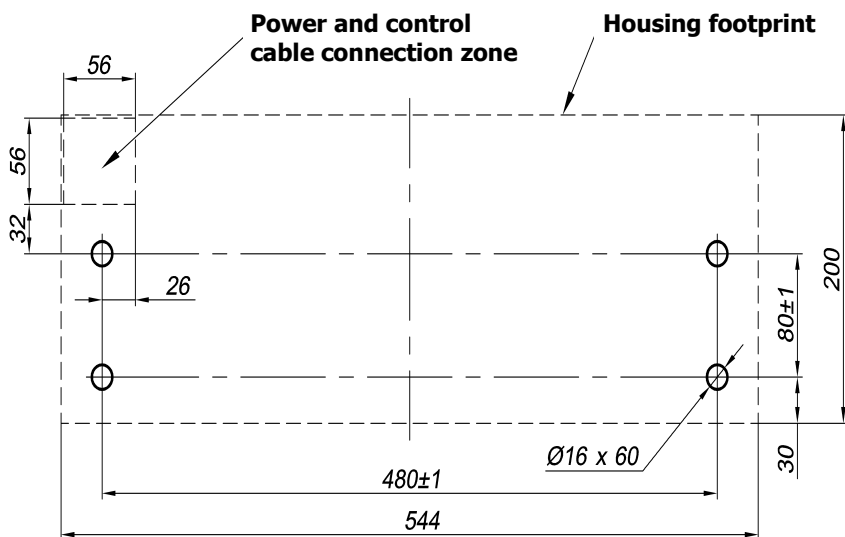
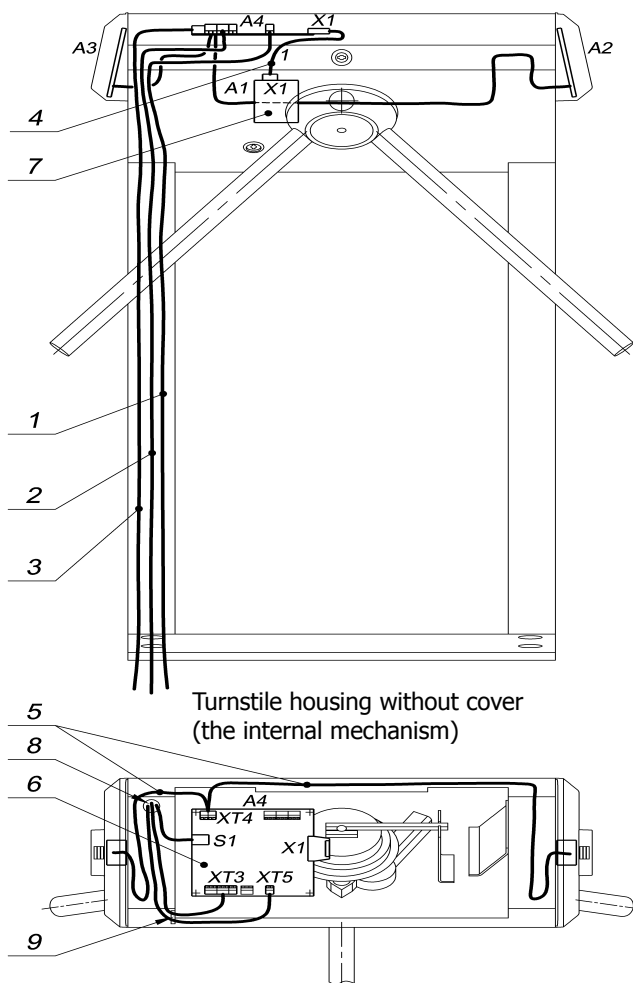

Figure 6 — Hole pattern for mounting of the housing
Figure 7 — Cable layout inside the housing
- marking the mounting holes as per Figure 6;
8.4.2 Mark the mounting surface with mounting holes as per Figure 6. Cut the raceway if concealed wiring is required. Prepare openings in the floor for anchor bushings to mount the housing. Install and fix the housing only after all the cable laying inside the raceways and the housing is completed. The cable layout inside the housing and positions of the holes to insert the insulation bushings included in the standard delivery set are shown in Figure 7.